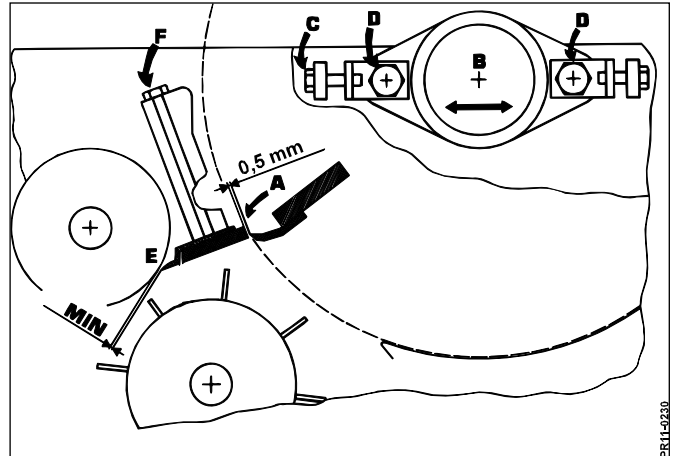
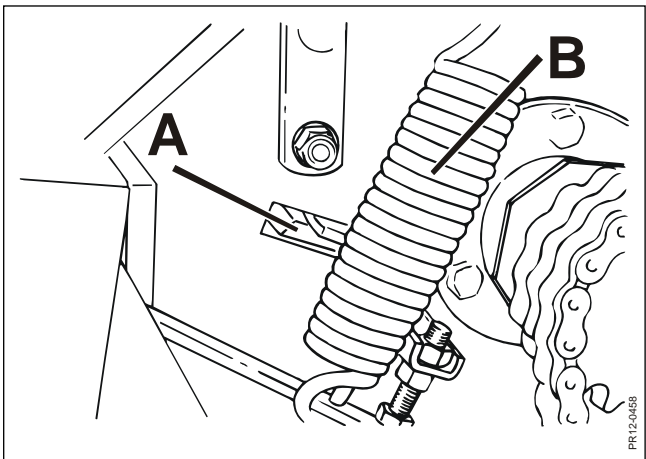

Fig. 4-2
Fig. 4-3
**Fig. 4-2** The distance **A** between the blades of the rotor and the shearbar must be checked regularly with the delivered gauge (distance measuring device). You should aim at a distance of 0.5 mm. If it is necessary to adjust the distance, loosen the 2 bearing housings **B** and adjust with the screws **C**. When the distance has been checked, the bolts **D** of the bearing housings are tightened with a torque wrench to 27 kgm (270 Nm).
**Fig. 4-3** The scraper is dismantled by removing the screws **F** (on fig. 4-2), which also secure the shearbar, after which scraper and shearbar can be pulled out of the opening **A** in the rotor housing. The spring **B** for the serrated roller must be loosened or dismantled to get enough space.